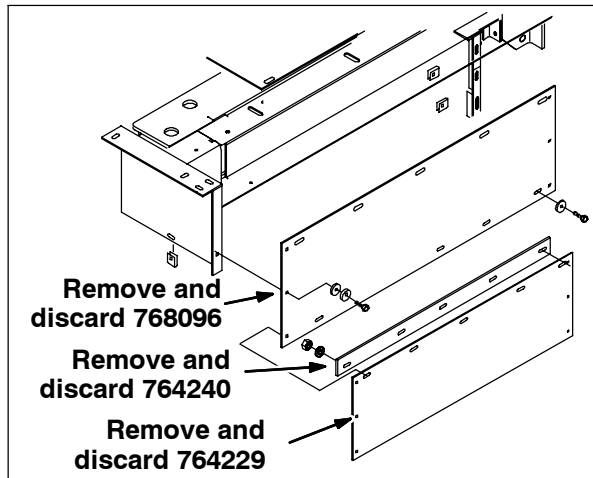
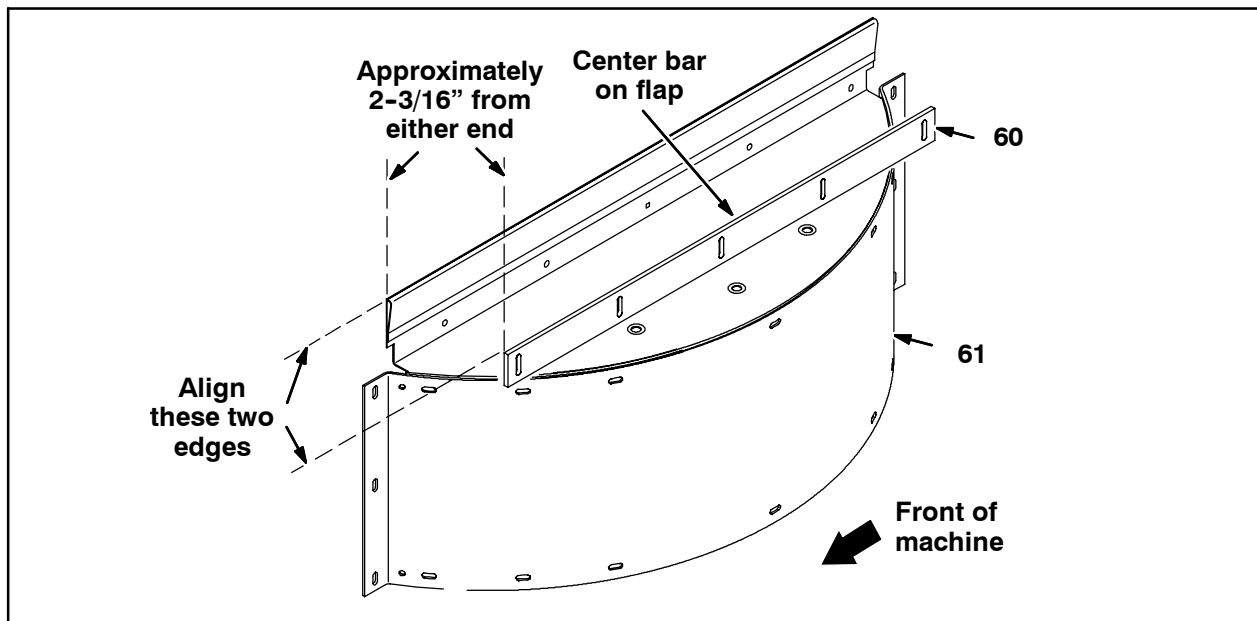
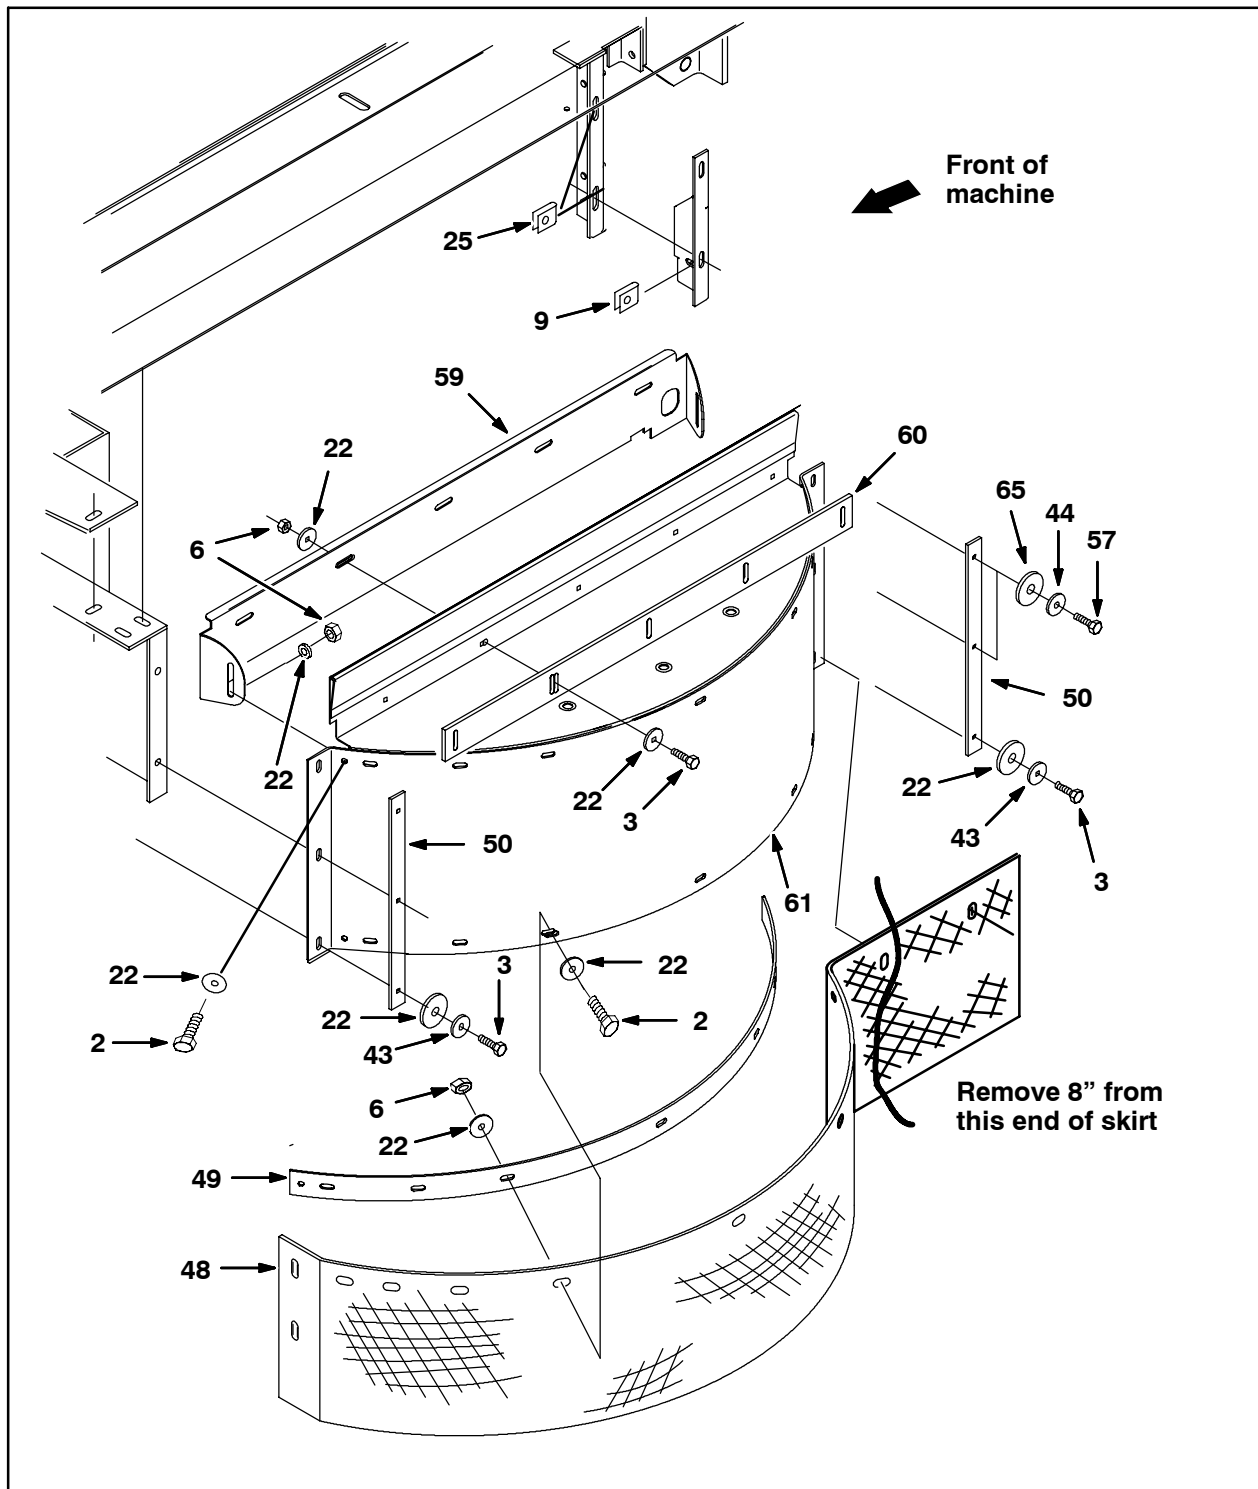

FIG. 7 - Left Hand Dust Skirts
FIG. 8 - Cover Assembly
FIG. 9 - Left Hand Side Brush Skirt Installation
1. Remove the flat cover (768096) to access the side brush area. Refer to Fig. 7.
2. Install the stop bolt (1) and jam nut (46) onto the angle under the machine frame by the bearing boss.
(Refer to Fig. 7, Fig. 8, and Fig. 9)
1. Remove and discard the left hand main brush door cover. Refer to Fig. 7.